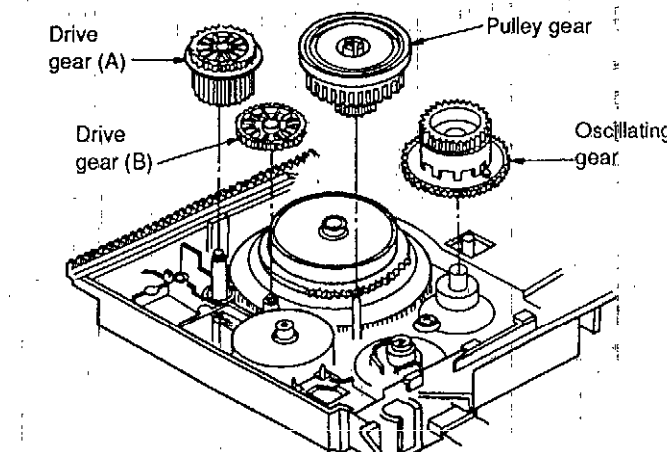

Fig. 5
8. Install the drive gear (B), the drive gear (A), the oscillating gear ass'y and the pulley gear. (See Fig. 5.)